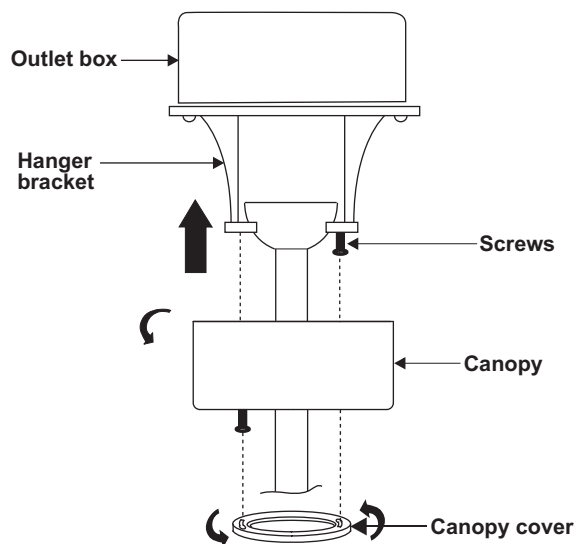

Figure 16
2. Slide the canopy up to hanger bracket and place the key hole on the canopy over the screw on the hanger bracket, turn canopy until it locks in place at the narrow section of the key holes. (Fig. 16)